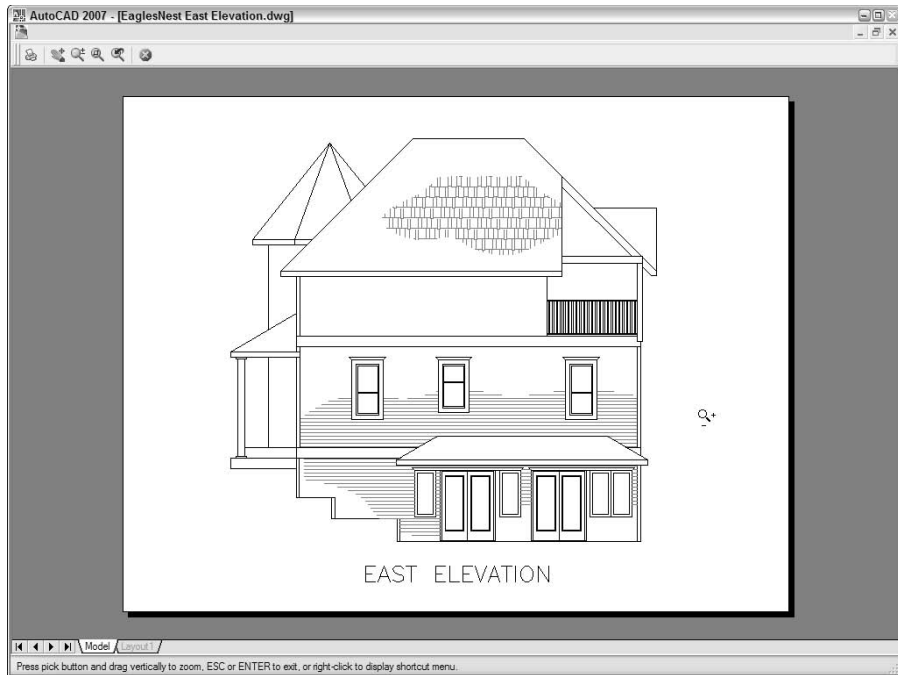

Figure 13-4:
- 14. Click the Preview button and check that the drawing displays on the paper at the correct orientation and size, as shown in Figure 13-4; then right-click and choose Exit to return to the Plot dialog box.**